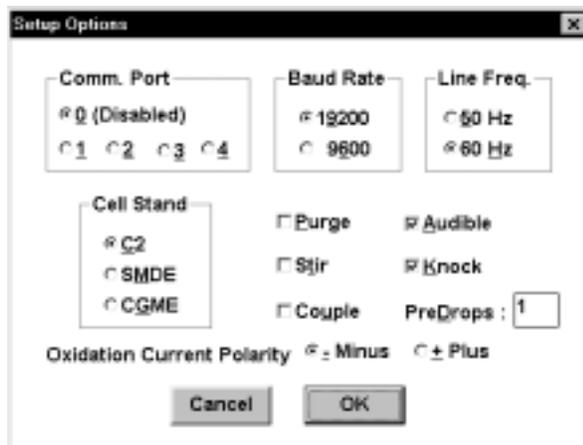

Figure 2-11. Setup dialog box.
- The BAS 100W software is opened by double-clicking the BAS 100W icon. Before any operation, it is advisable to check that the communication parameters are correct. These are contained in the **Setup** dialog box in the **File** menu (Figure 2-11).